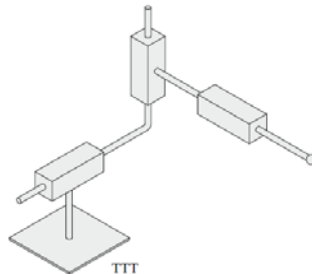

Figure 8.7 Cartesian robot arm
- The cartesian robot arm (Figure 8.7) has all three joints of the translational type (TTT).